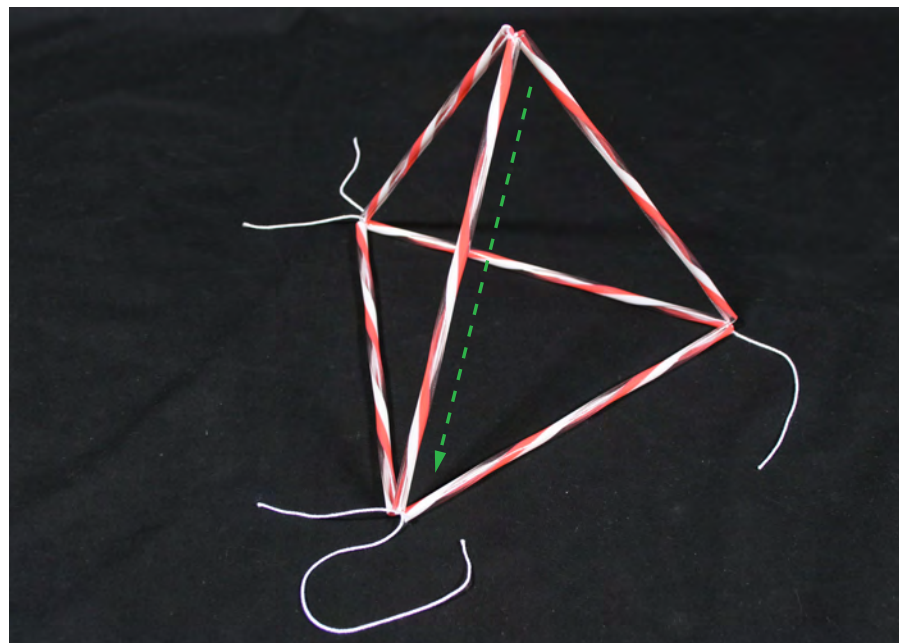

Fig. 6 Completed three dimensional tetrahedron
6. Tie together the two opposite ends (the end of the 4-inch string and the end of the double-length string closest to the straws) to form a tight 3-dimensional tetrahedron (fig. 6).